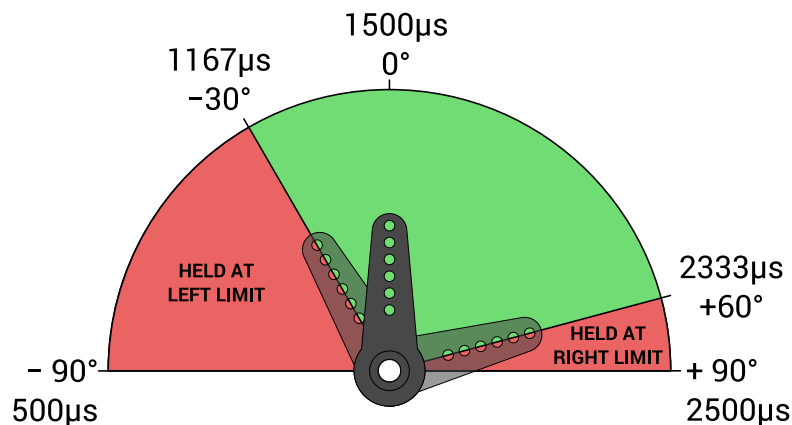

Figure 2-3 Servo Operation with Example Limits
- Figure 2-3 Servo Operation with Example Limits 6
Once valid limits are programmed, the SRS will ignore any pulses that exceed the limits and hold the limit angle. For example, in Figure 2-3 a left limit of -30° and a right limit of +60° was set.